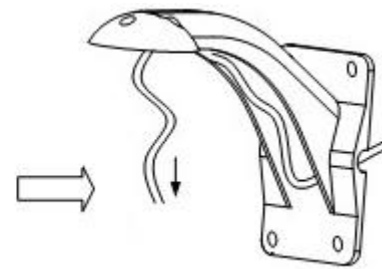

Figure 8
6. Please let system control wire, video wire, power wire go through the bracket (Figure 8) .